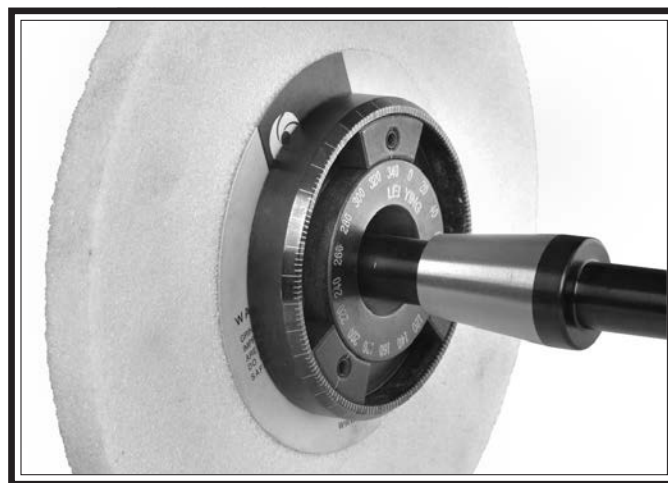

Figure 41. Installing the balancing arbor.
5. Using a slightly-oiled lint free cloth, wipe the mating surfaces of the balancing arbor and the internal hub taper perfectly clean, then push them together, as shown in **Figure 41**.